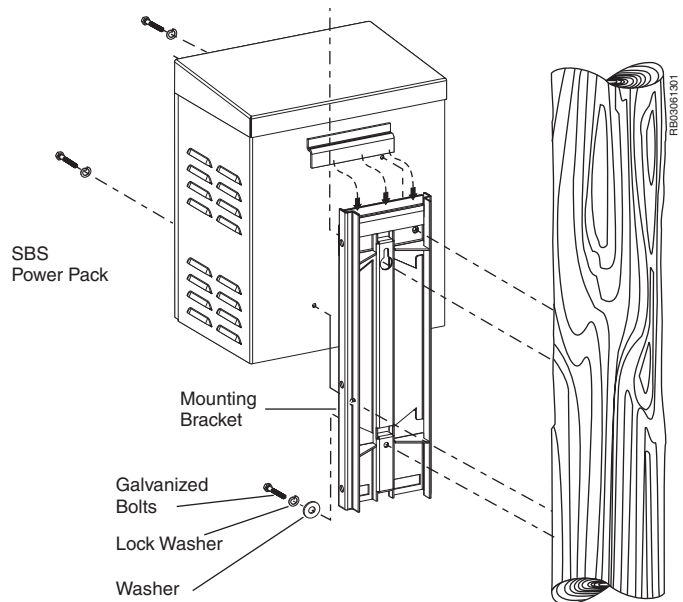

Figure 3.21 Mounting the SBS Battery Enclosure
3. Secure the cabinet to the bracket, as shown in Figure 3.21.